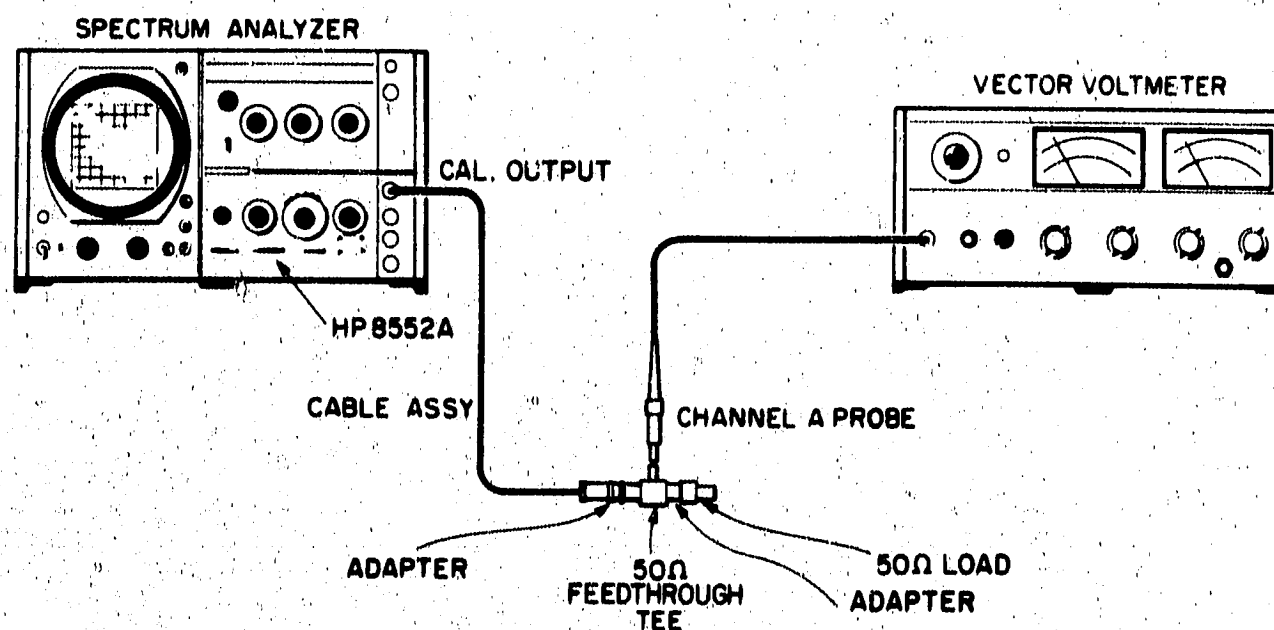

Figure 4-3. Calibrator Amplitude Test
1. Connect the equipment shown in Figure 4-3 and make the following settings: